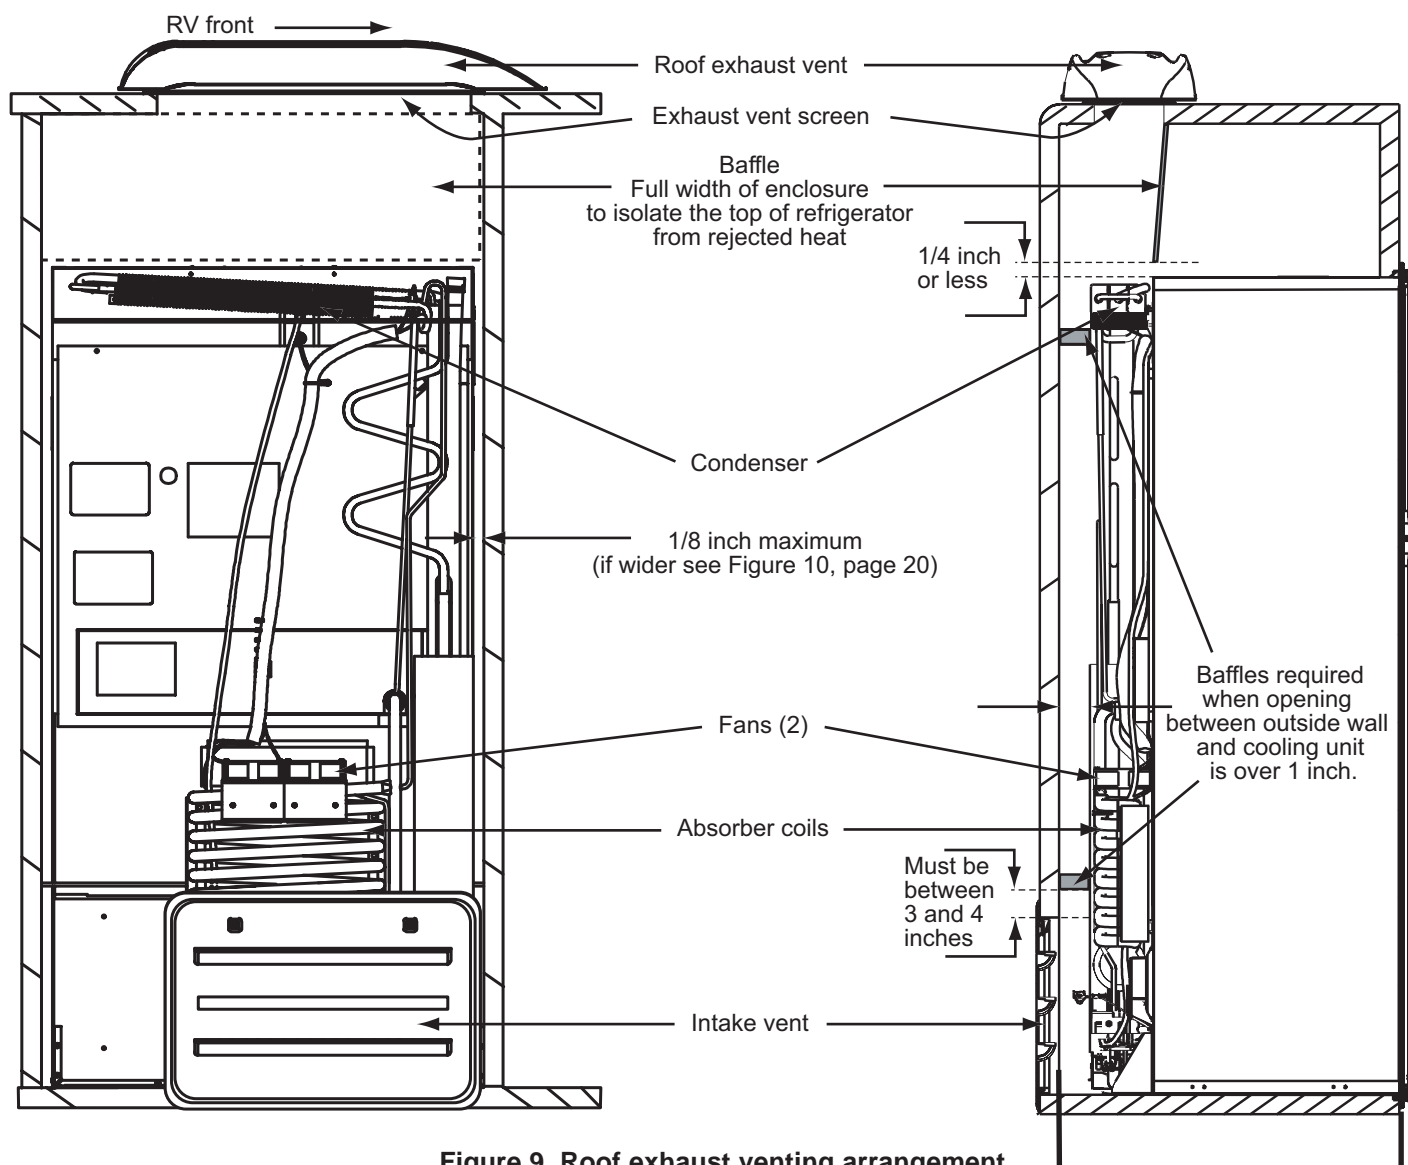

Figure 9. Roof exhaust venting arrangement
6. Locate Pin 15 on 16 pin connector (P1). Pin 15 is the empty socket to the right of the white/violet wire on the top row. See Figure 9.
The ventilation and combustion air flows into the enclosure through the air intake vent. See Figure 9.
The heat absorbed by ventilation air and combustion gases flow out of the enclosure through the roof exhaust vent. See Figure 9.